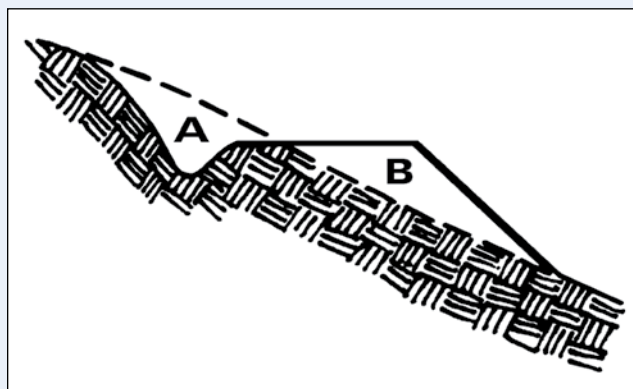

Figure 12-4: A side-hill cross-section illustrating how cut materials (A) equals fill materials (B).
- ◆ Locate roads to follow natural contours and to minimize cut and fills. Balance cut and fills to minimize the need for fill and removing excess fill material (see Figure 12-4).